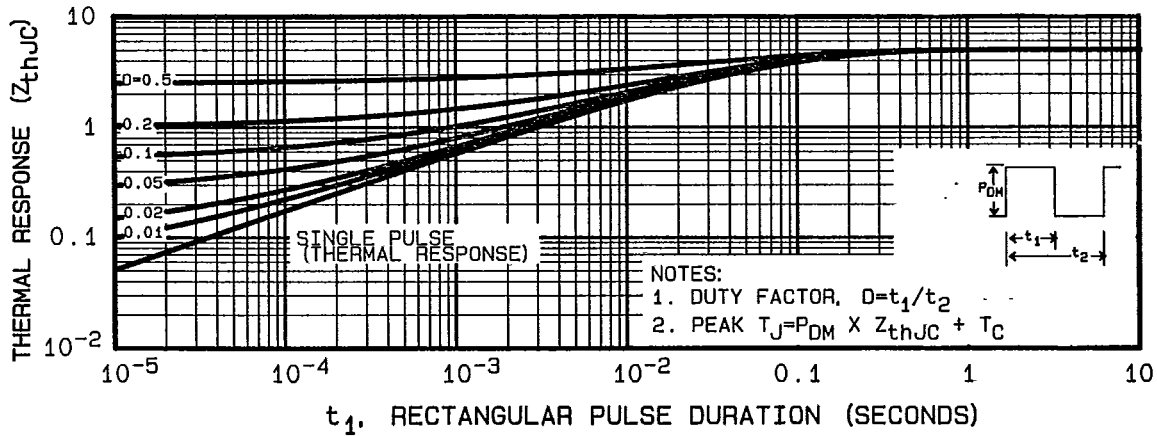

Fig. 5 — Maximum Effective Transient Thermal Impedance, Junction-to-Case Vs. Pulse Duration
- ① Repetitive Rating; Pulse width limited by maximum junction temperature (see figure 5)
- ② @ $V_{DD} = -25\text{V}$, Starting $T_J = 25^\circ\text{C}$, $L = 9.7\text{ mH}$, $R_G = 25\Omega$, Peak $I_L = -5.3\text{A}$
- ③ $I_{SD} \leq -5.3\text{A}$, $di/dt \leq -80\text{ A}/\mu\text{s}$, $V_{DD} 40\text{V}$, $T_J \leq 150^\circ\text{C}$, Suggested $R_G = 24\Omega$
- ④ Pulse width $\leq 300\ \mu\text{s}$; Duty Cycle $\leq 2\%$
- ⑤ $K/W = \text{ }^\circ\text{C}/W$